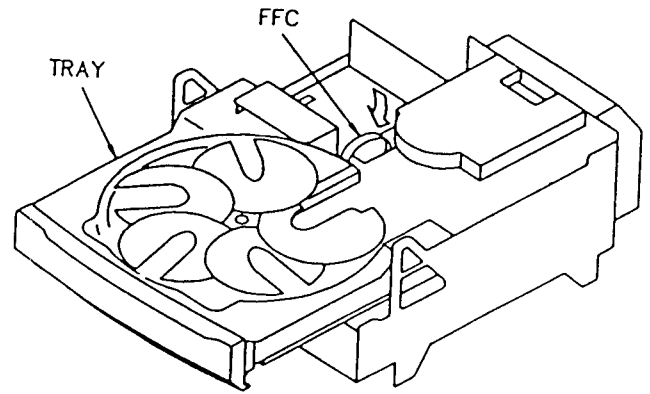

Figure 6
(figure 6)
- 3) After TRAY is half closed and FFC is put in, it can enter by force until the end of TRAY closed. (figure 6)